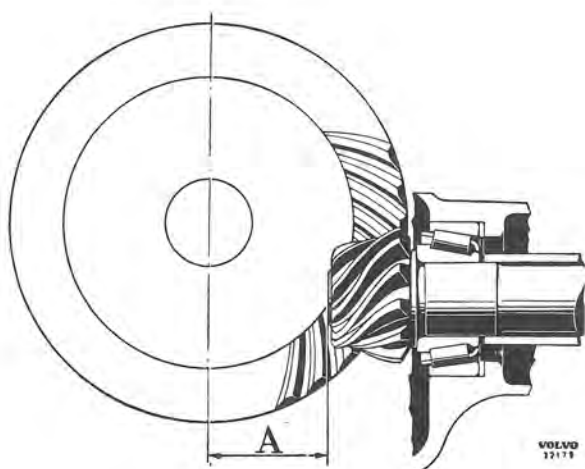

Fig. 4-155. Pinion location
2. The pinion should have a certain nominal measurement (A, Fig. 4-155) to the center line of the crown wheel. Due to tolerances in the manufacturing, there are deviations from the nominal measurement. This is indicated on the ground surfaces on the pinion with a figure.